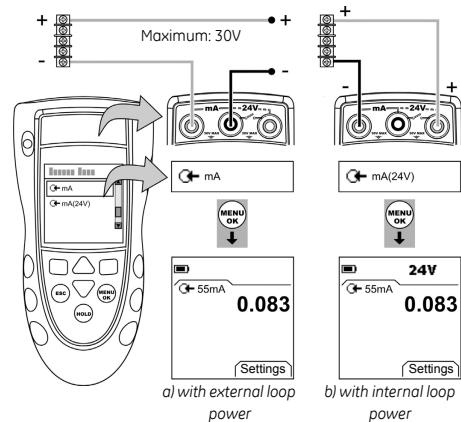

Figure 4: Example configuration - mA measurement
1. Connect the instrument (Figure 4) and, if necessary, adjust the Set Up (Table 1).